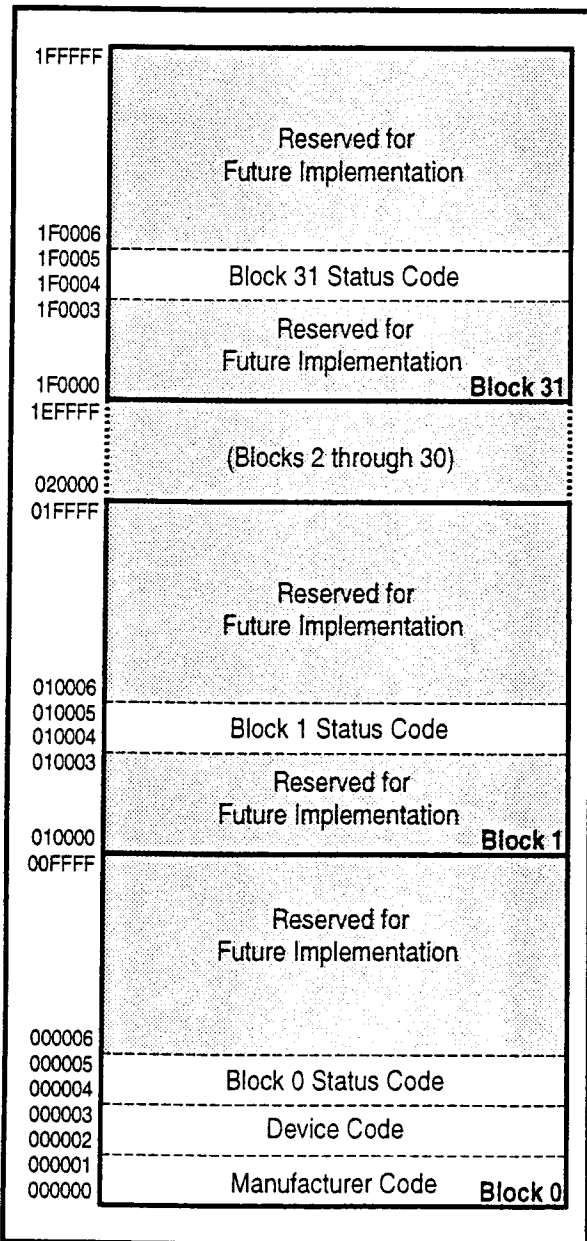

Figure 8. Device Identifier Code Memory Map
The read identifier codes operation outputs the manufacturer code, device code, block status codes for each block (see Figure 8). Using the manufacturer and device codes, the system CPU can automatically match the device with its proper algorithms. The block status codes identify locked or unlocked block setting and erase completed or erase uncompleted condition.
IA=Identifier Code Address: see Figure 8.
The identifier code operation is initiated by writing the Read Identifier Codes command. Following the command write, read cycles from addresses shown in Figure 8 retrieve the manufacturer, device, block lock configuration and block erase status (see Table 5 for identifier code values). To terminate the operation, write another valid command. Like the Read Array command, the Read Identifier Codes command functions independently of the  $V_{PP}$  voltage and  $RP\#$  must be  $V_{IH}$ . Following the Read Identifier Codes command, the following information can be read:
1. X selects the specific block status code to be read. See Figure 8 for the device identifier code memory map.